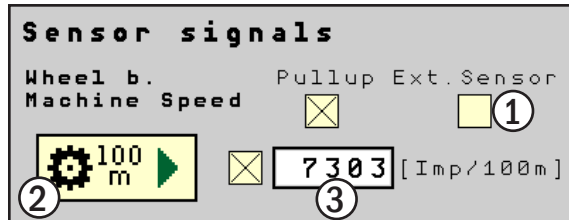

Fig. 78: Sensor signals – Manually enter/determine the pulse rate for WBS of the signal socket
Make sure that the check box (1) in Fig. 78 is deactivated to accept the signal socket as a pulse generator.
If the pulse rate of the built-in signal socket does not conform to the default value of ISO 11786 (13000 pulses / 100m), you can manually enter the value in the text box (see Fig. 78 - 3).
- Press the 100m soft key (see Fig. 78 - 2).